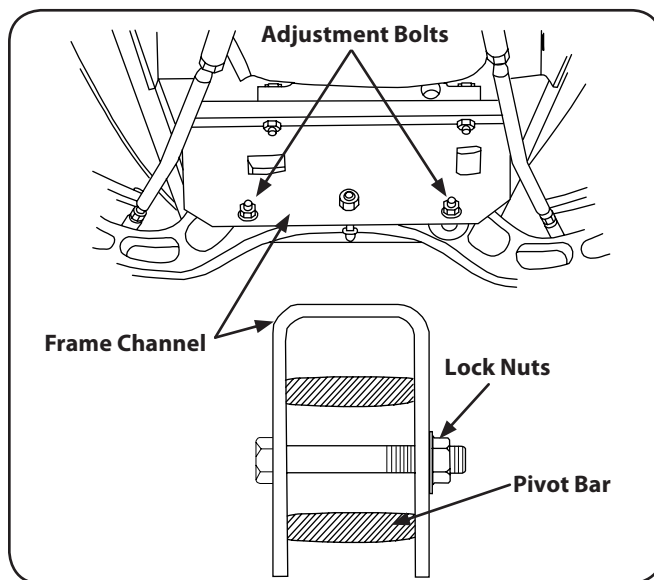

Figure 6-10
2. Move the ends of the pivot bar up and down to check for binding. If binding is present, loosen the lock nuts until binding is eliminated. See Fig. 6-10.